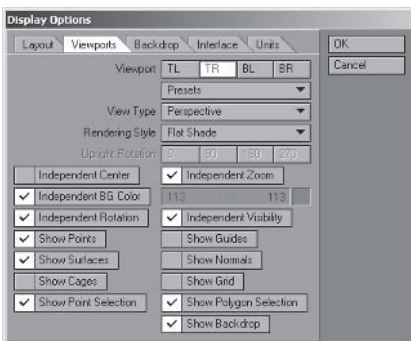

Figure 1.3-3. Display Options>Viewports, Viewport TR.
10. Notice that when you check Independent Visibility the lower options become active. Now you can adjust the way models are viewed in the Perspective view. See Figure 1.3-3 for which check boxes I have set.